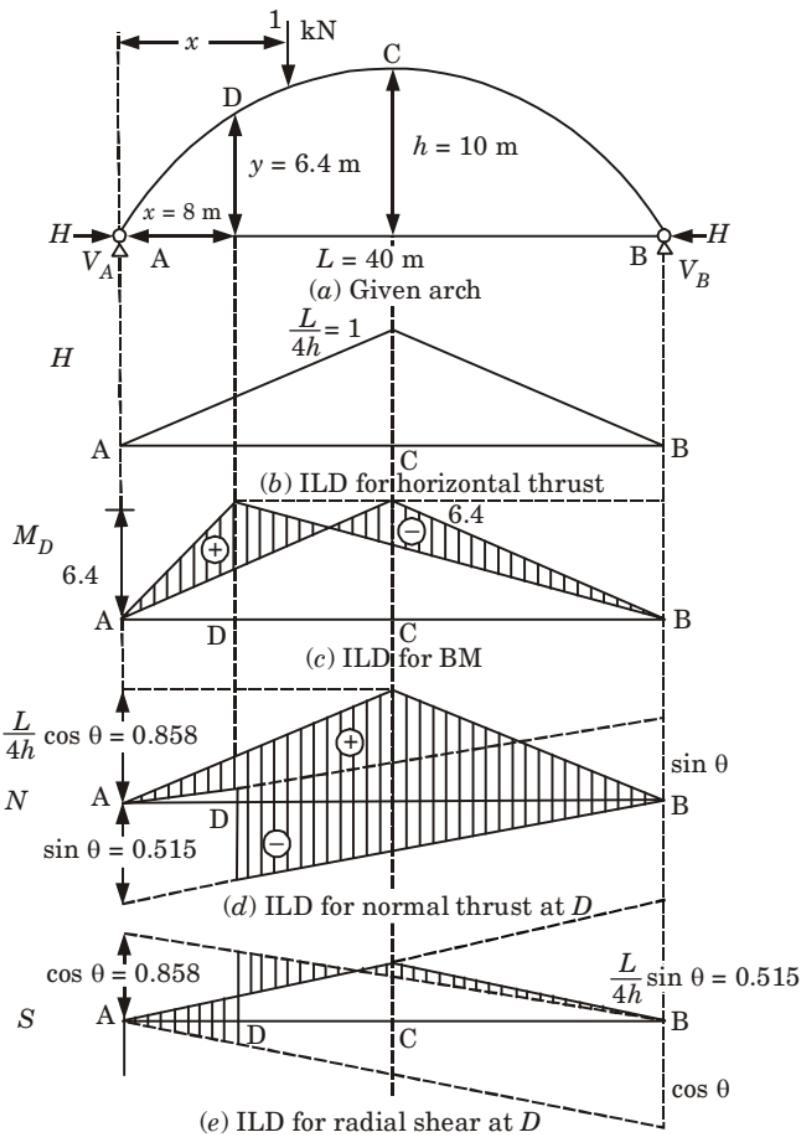

Fig. 32.
- vi. ILD for horizontal thrust is shown in Fig. 32(b). This is an isosceles triangle having an latitude equal to  $\frac{L}{4h} = \frac{40}{4 \times 10} = 1 \text{ unit.}$